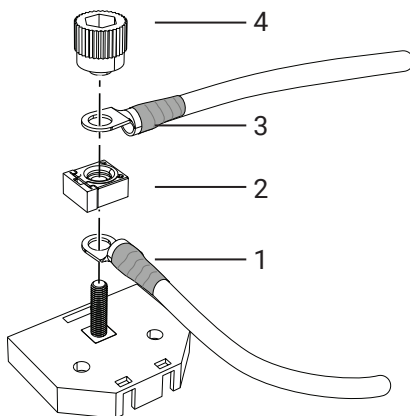
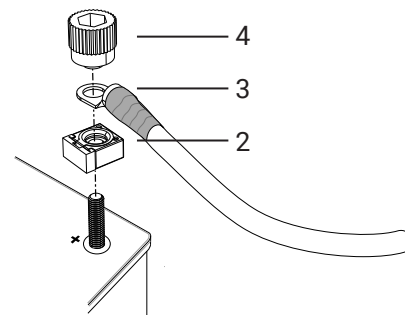

Figure 38. Connection to the fuse box
Figure 39. Connection to the battery's positive terminal
2. If applicable, ensure that the cab switch (CS) is in the "Off" position.
3. When using a fuse box, connect the cable (1) to the battery's positive terminal and to the fuse box and place the fuse (2) above, see Figure 38.
4. When connecting directly to the positive battery terminal, place the fuse (2) on the positive terminal, see Figure 38.
5. Connect the main power cable (3) to the fuse box / positive terminal, see Figure 38 - Figure 39.
6. Screw tight the cable connections and fuse with the knob (4). Install the cables at 90° or 180° from each other. Install the fuse at right angles to the cables; see Figure 38 - Figure 39.